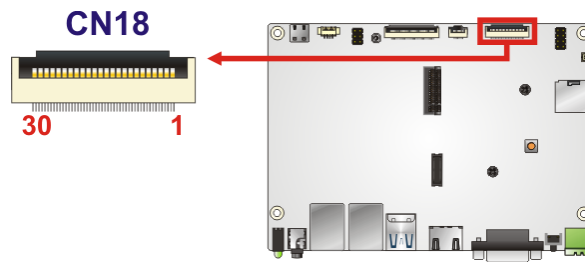

Figure 3-8: MIPI CSI Connector Location
- CN Location:** See **Figure 3-8**